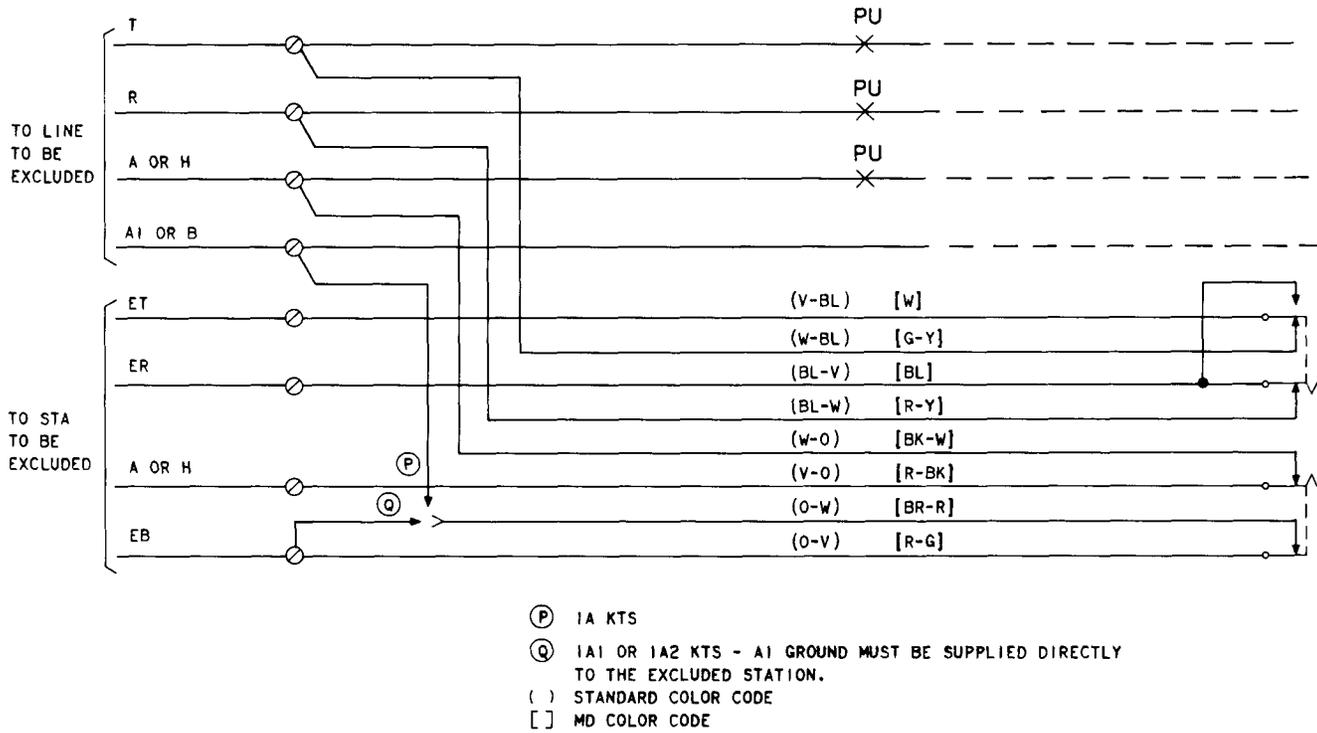

Fig. 1—Single Line Exclusion Using Switch in Telephone Set
2.01 Two types of exclusion are available—single line (Fig. 1) using the exclusion switch in the telephone set and multiline (Fig. 2) using a 428A or 405A (MD) KTU. The KTU will handle two CO or PBX lines associated with 1A1 or 1A2 KTS.